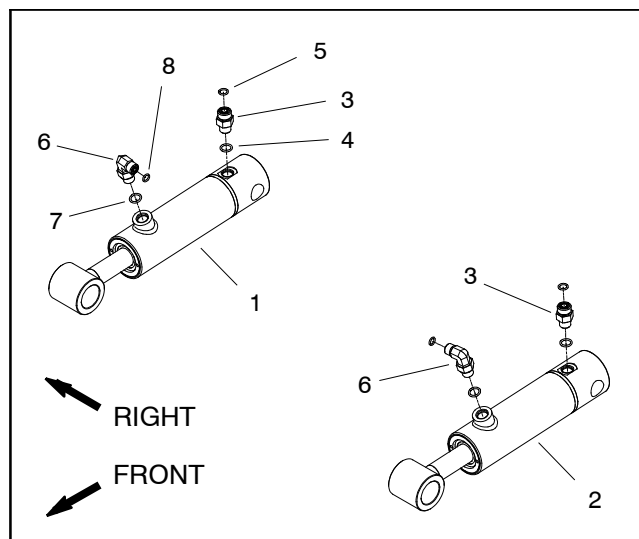

Figure 103
6. Remove cap screw and flange nut that secure the pin (item 5) to the lift arm. Remove pin from lift arm and cylinder shaft clevis which will free lift cylinder from lift arm.
7. Remove one (1) cotter pin and two (2) flat washers from clevis pin (item 9) that secures lift cylinder to front frame. Pull clevis pin from frame and cylinder barrel clevis.
9. If hydraulic fittings are to be removed from lift cylinder, mark fitting orientation to allow correct assembly. Remove fittings from cylinder and discard O-rings (Fig. 103).
1. If fittings were removed from lift cylinder, lubricate and place new O-rings onto fittings. Install fittings into cylinder port openings using marks made during the removal process to properly orientate fittings (Fig. 103). Tighten fittings (see Hydraulic Fitting Installation in the General Information section of this chapter).
2. Make sure that cotter pin and two (2) flat washers are installed on one end of clevis pin (item 9).
3. Position lift cylinder barrel clevis to front frame and insert clevis pin into frame and clevis. Secure clevis pin with two (2) flat washers and one (1) cotter pin.
4. Insert pin (item 5) through lift arm and cylinder shaft clevis. Secure pin to lift arm with cap screw and flange nut.